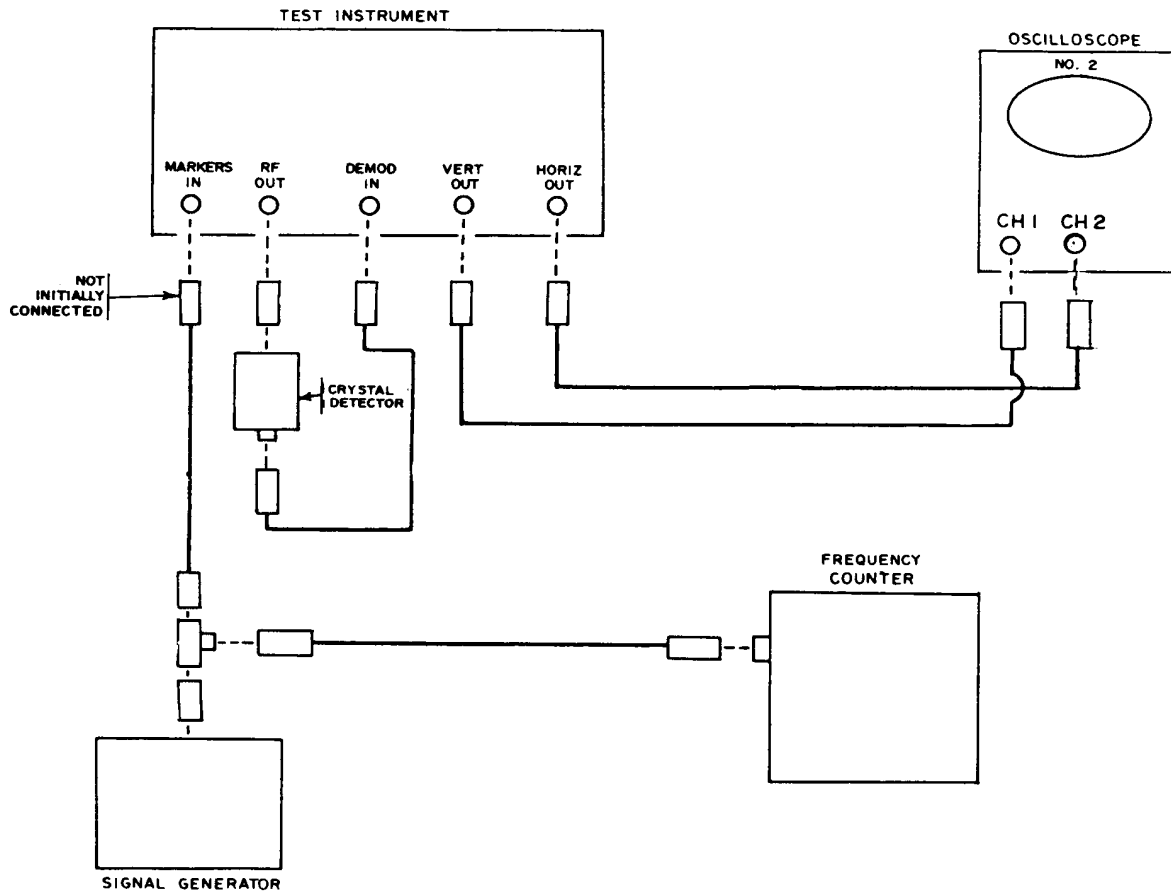

Figure 1. Test equipment - overall equipment setup.
d. Connect equipment as shown in figure 1.
e. Position controls as listed in (1) through (11) below:
- (1) Reconnect equipment as shown in figure 1 with signal generator disconnected.